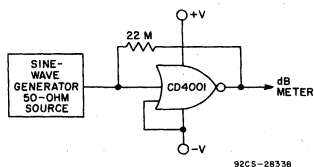
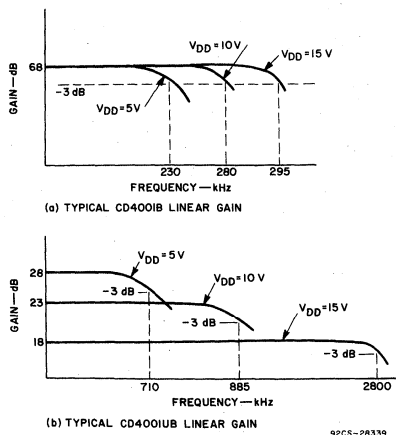

Fig. 7 — Linear-gain test circuit.
Fig. 8 — Typical linear-mode gain of buffered and unbuffered 2-input NOR gate.
**AC Gain and Bandwidth**—CMOS linear-mode gain was measured for both the buffered and unbuffered RCA 2-input NOR gate by means of the test circuit of Fig. 7. Fig. 8 shows typical linear-mode gain difference between buffered and unbuffered RCA 2-input NOR gates. While absolute performance depends on device type (inverters; 2-, 3-, 4-input gates) and test configurations, Fig. 8 defines the